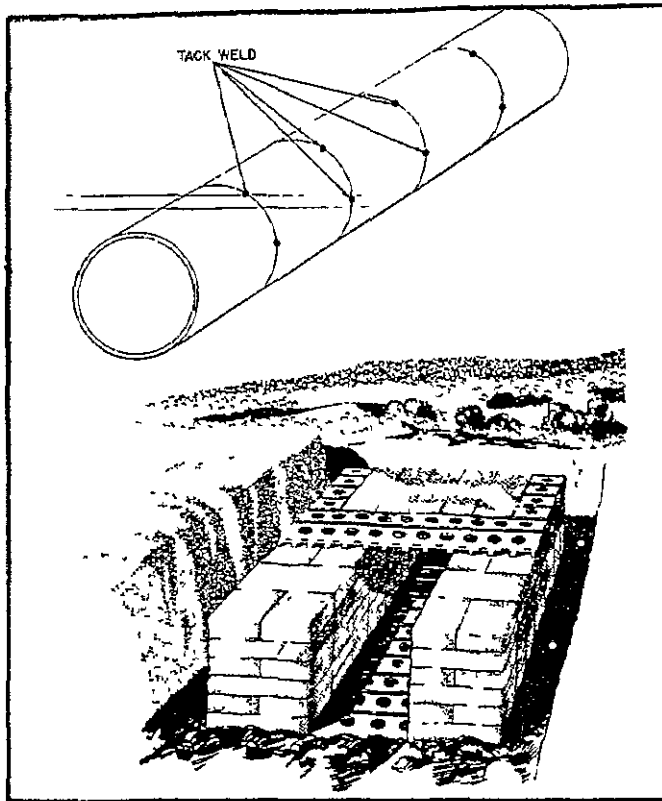

Figure 55. Expedient culverts.
(1) One culvert of this kind uses oil, gasoline, or asphalt drums. Remove their ends with detonating cord, sharp hand tools, or the pneumatic metal drum opener. CAUTION: Do not use a torch or other tools on gasoline or oil drums unless they are completely empty. Join these drums end to end by tackwelding, bolting, or wiring (figure 55).
(2) Another type of expedient culvert is also illustrated in the lower part of figure 55. It uses sandbags and pierced metal panels, the latter being placed both above and below the sandbags as shown in figure 55.